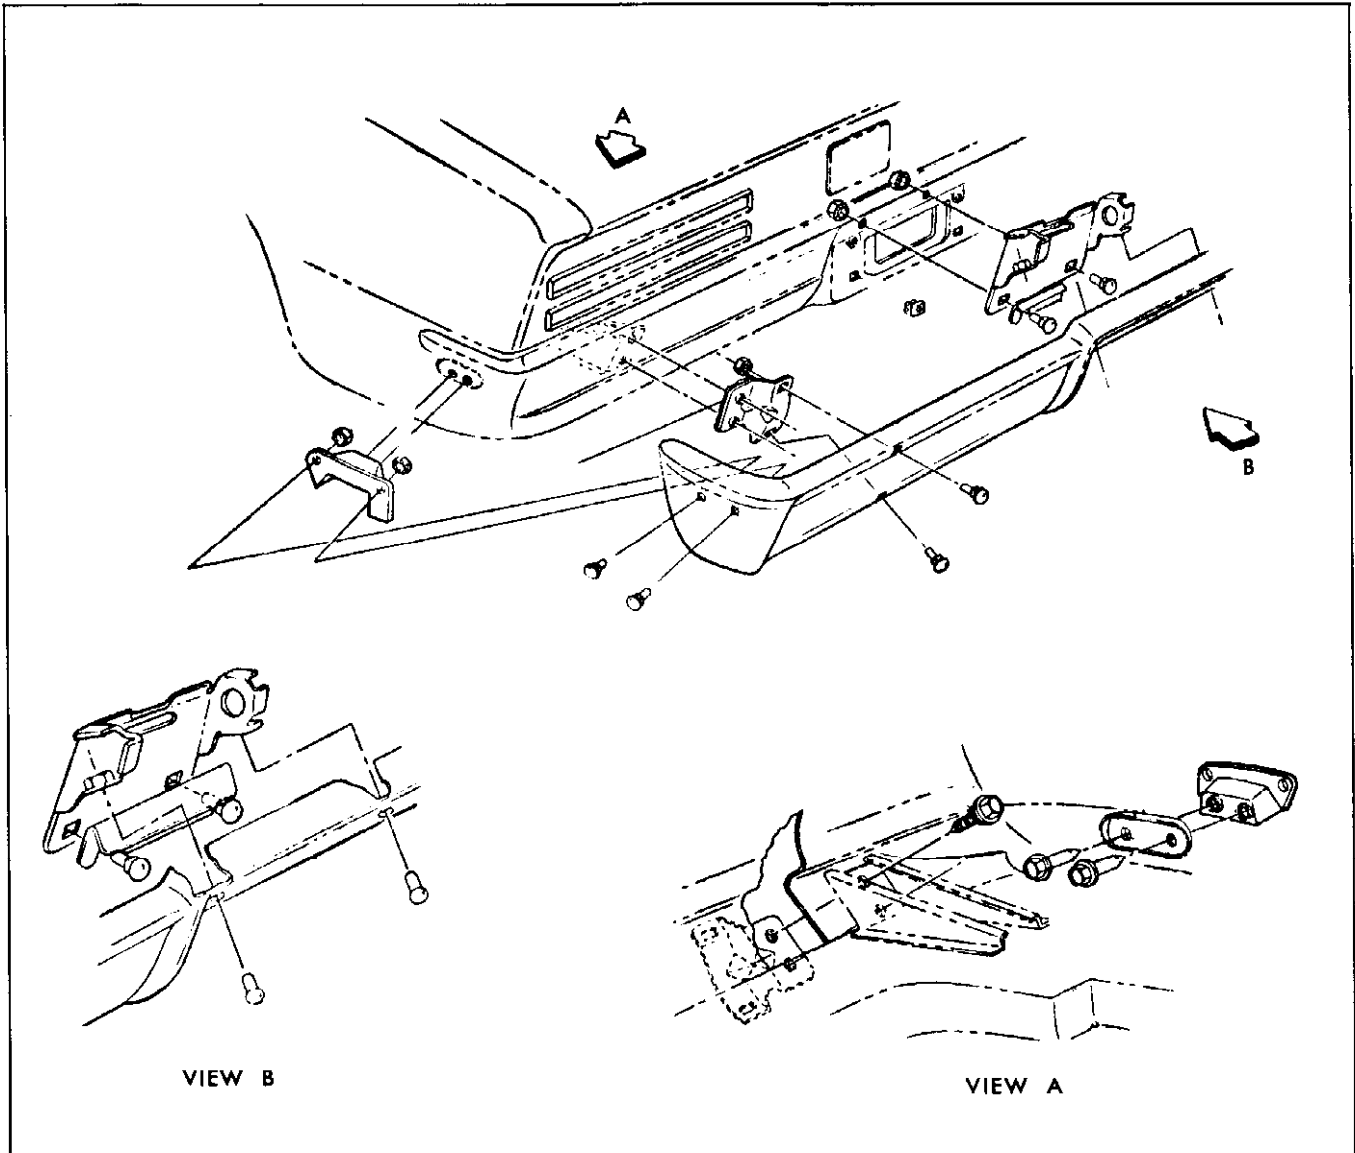

Fig. 14-2 Rear Bumper
1. Raise and support rear of vehicle (Fig. 14-2).